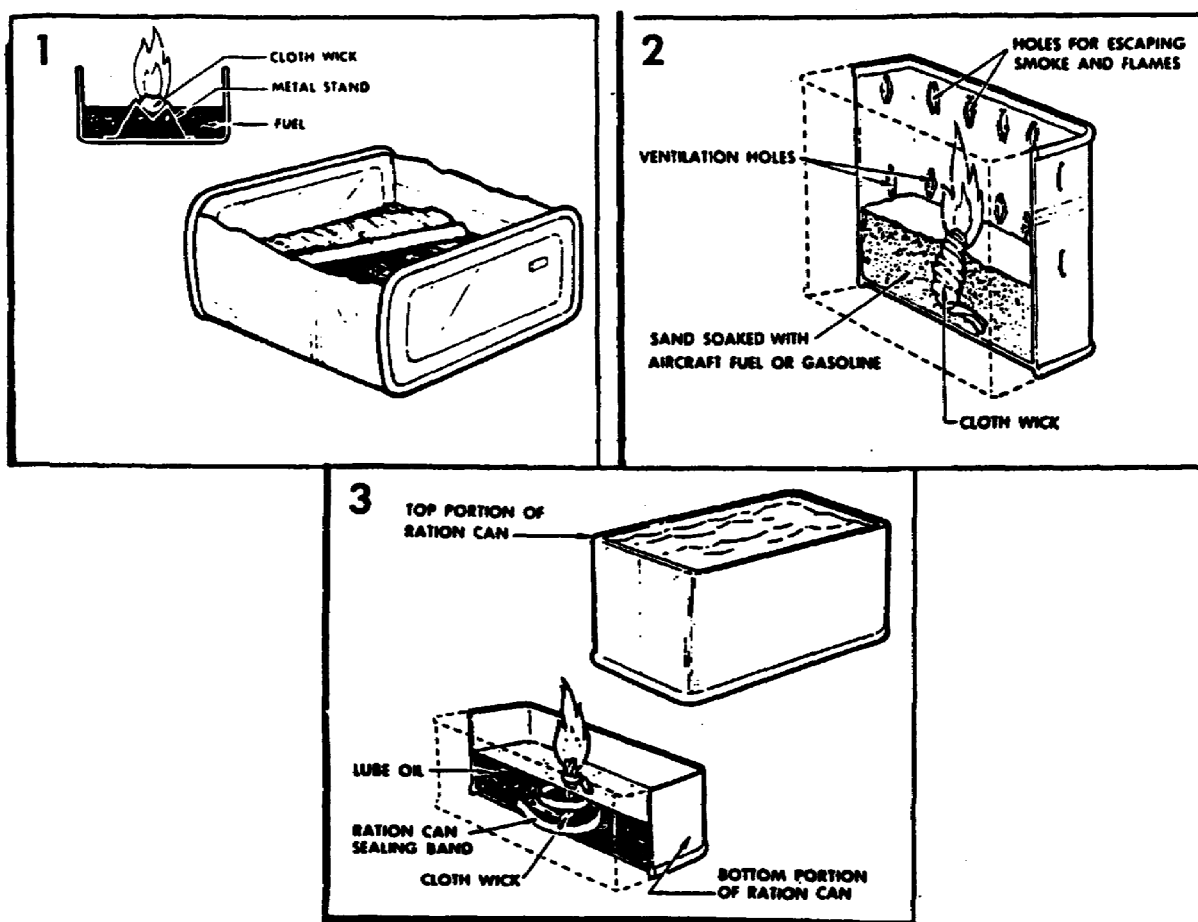

Figure 55. Fat and oil stoves.
a. You can make a stove of any empty waxed carton by cutting off one end and punching a hole in each side near the unopened end. Stand the carton on the closed end and loosely place the fuel inside the carton. Then light the stove using fuel material left hanging over the end. The stove will burn from the top down. You can also improvise a stove to burn fuel, lubricating oil, or a mixture of both (Figure 55). Place 1 or 2 inches of sand or fine gravel in the bottom of a can or other container and add fuel. Use care when lighting the fuel because it may explode. Cut slots into the top of the can to let flame and smoke out, and punch holes just above the level of the sand to provide a draft. A mixture of fuel and oil makes the fire burn longer. If no can is available, dig a hole and fill it with sand. Then pour fuel on the sand and ignite it. Do not allow the fuel to collect in puddles.